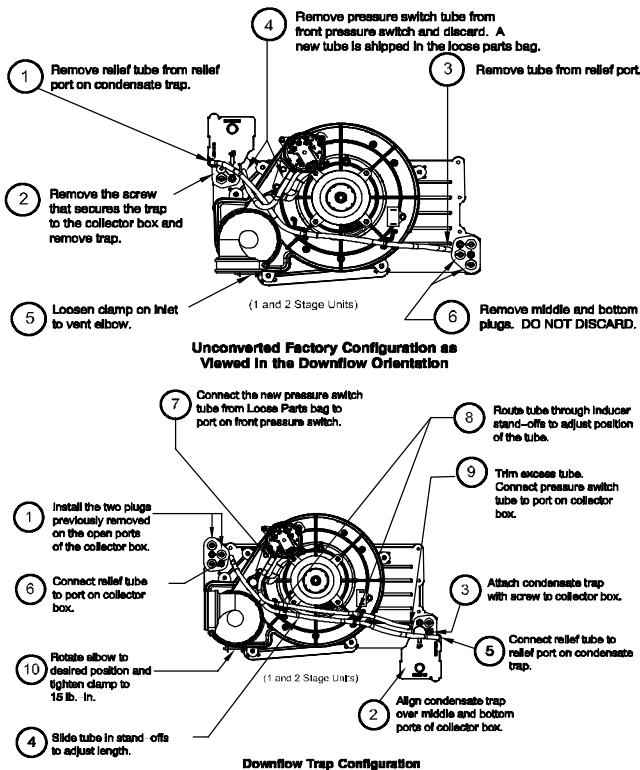

Fig. 9 - Downflow Trap Configuration
When the furnace is installed in the downflow position, the condensate trap will be initially located at the upper left corner of the collector box, as received from the factory. See the top image in Fig. 9. When the furnace is installed in the downflow orientation, the condensate trap must be relocated for proper condensate drainage. See the bottom image in Fig. 9.
- Fig. 9 shows the condensate trap and tubing before and after relocation. Refer to Fig. 9 to begin the trap conversion.